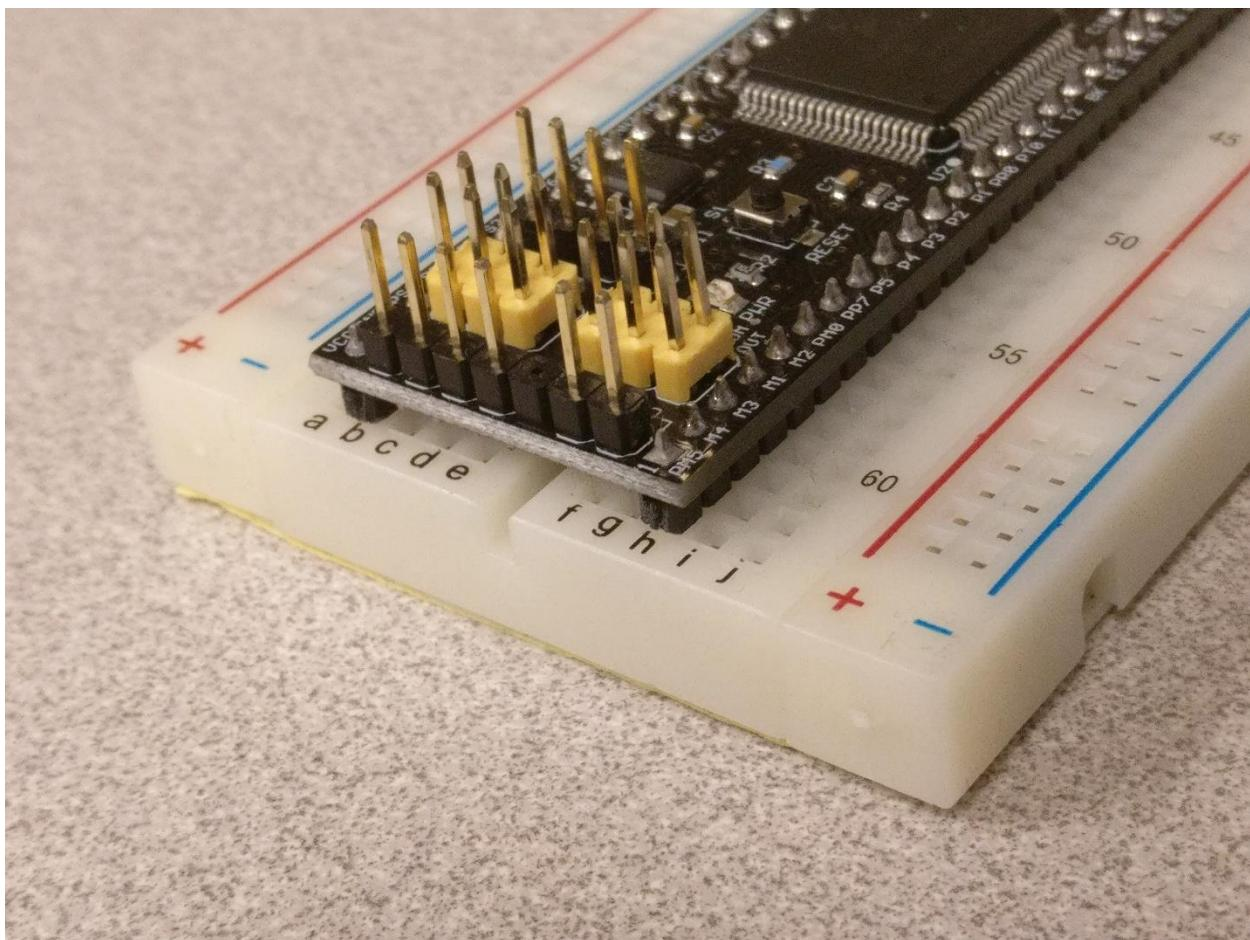

Figure 8-2 – Thunderbird12 inserted in solderless breadboard
1. Insert the Thunderbird into the solderless breadboard. There will be letters and numbers printed on the breadboard on different axes. The top row of pins on the Thunderbird should be inserted into the column b, and the bottom row of pins should be inserted into column h. The board should be inserted as far to the left of the breadboard as possible, left of row 60. Refer to Figure 8-2 for an example of what the breadboard should look like.